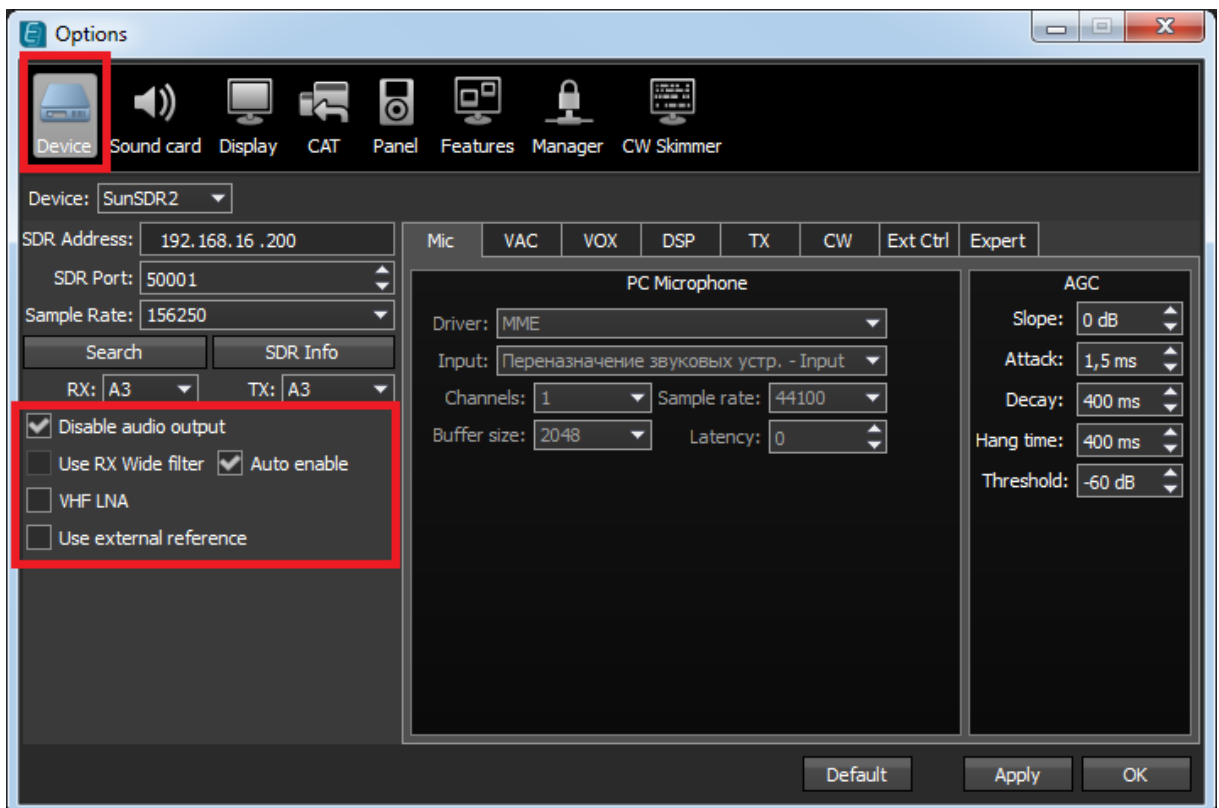

Figure 4.2 – Transceiver's settings
5. Open menu **Options**→ **Device** and set the check box in accordance with the figure 4.2: